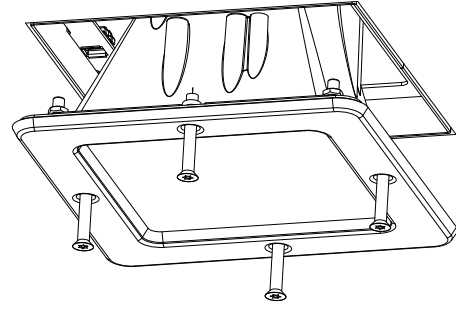

FIGURE 6
'FF' style: Position TRIM SECTION and align the (4) trim mounting screws with the cage nuts in the mounting ring (see Figure 6). Tighten to secure the trim.